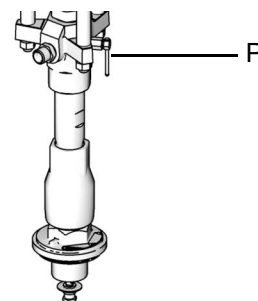

FIG. 5
7. Open the fluid line drain valve and the pump bleed valve (P). Have a container ready to catch the drainage.
8. Leave the pump bleed valve open until ready to spray again. See FIG. 5.